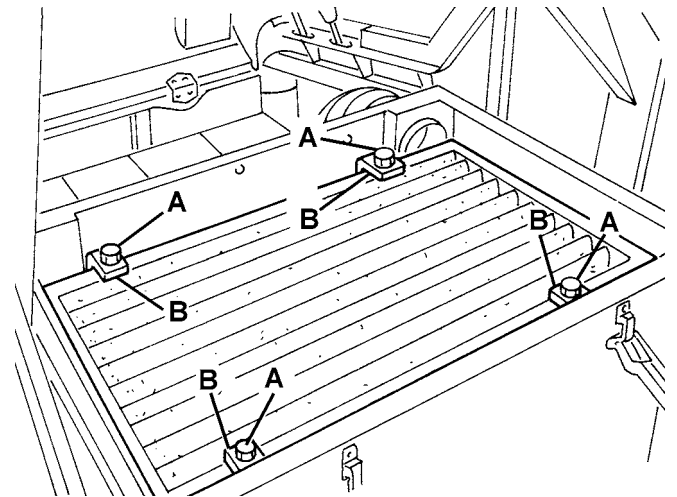

Figure 16
5. Unscrew the knobs (A, Fig. 16) and remove the brackets (B).